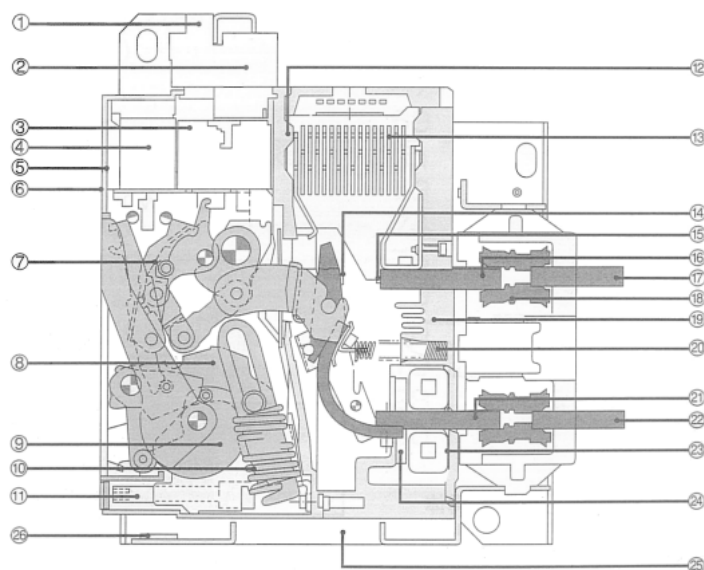

Fig. 4-1
- ① Make sure that the packing case is free from any abnormality such as breaking and/or wetting.
- ② Referring to the rating nameplate, make sure that the delivered breaker is in conformity with your order. Serial No. is indicated on the rated name plate and the cradle name plate (Fig. 4-1 ㉔).